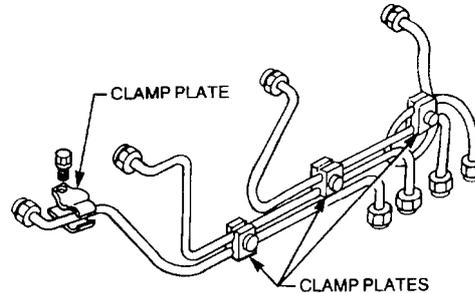

Figure 23 Clamp Plate Location
- aa. Install the fuel line clamp plates and tighten them securely (Figure 23).